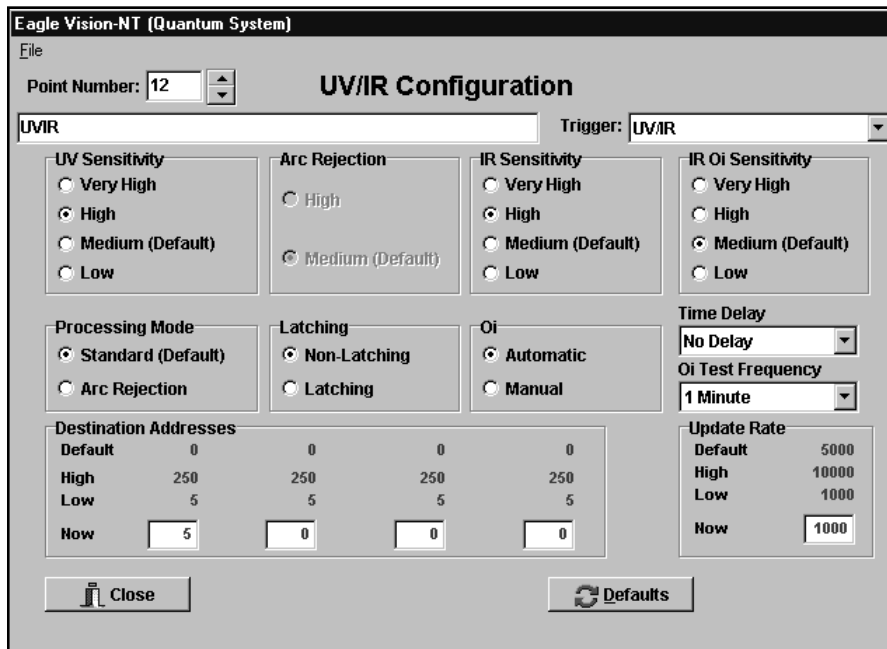

FIGURE V-9
3. Click on the UV/IR Detector button, then click on OK. The UV/IR Configuration screen will be displayed. See Figure V-9.